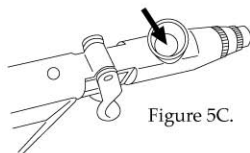

Figure 5C.
*Tritium.TG* - Thoroughly clean the paint passageway at the bottom of the paint reservoir. Refer to Figure 5C on page 10.